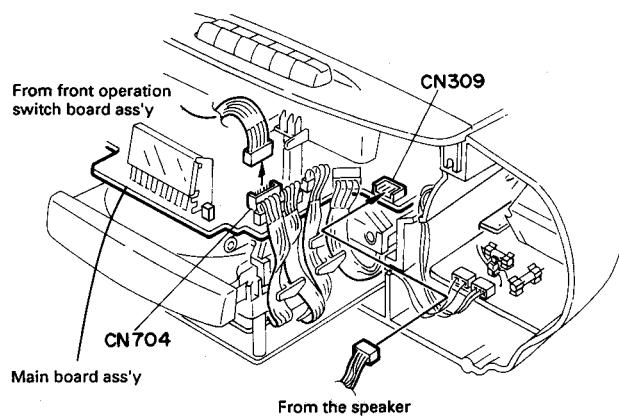

Fig. 2-2
- Remove the speaker harness coming from the front cabinet assembly and the operation switch board harness connected to the CN704 and CN309 connectors on the main PCB (Fig. 2-2).
- For removing the handle and top cover, extend the rear cabinet outwards (as indicated by the lateral arrows) and it is disengaged from the right and left fittings ③. Then, the handle can be removed in the direction of the arrow (rearwards).